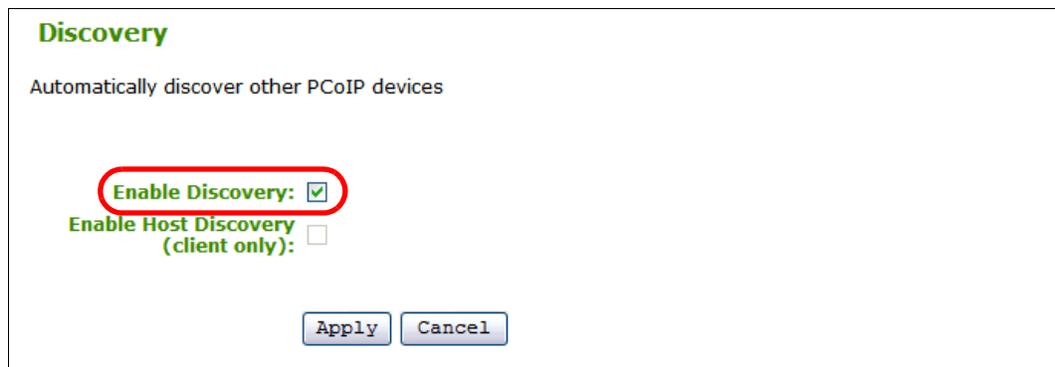

Figure 6-66 The Discovery menu allows you to enable discovery
6. Select **Enable Discovery**, as shown in Figure 6-66. Then, click **Apply** to save the change.